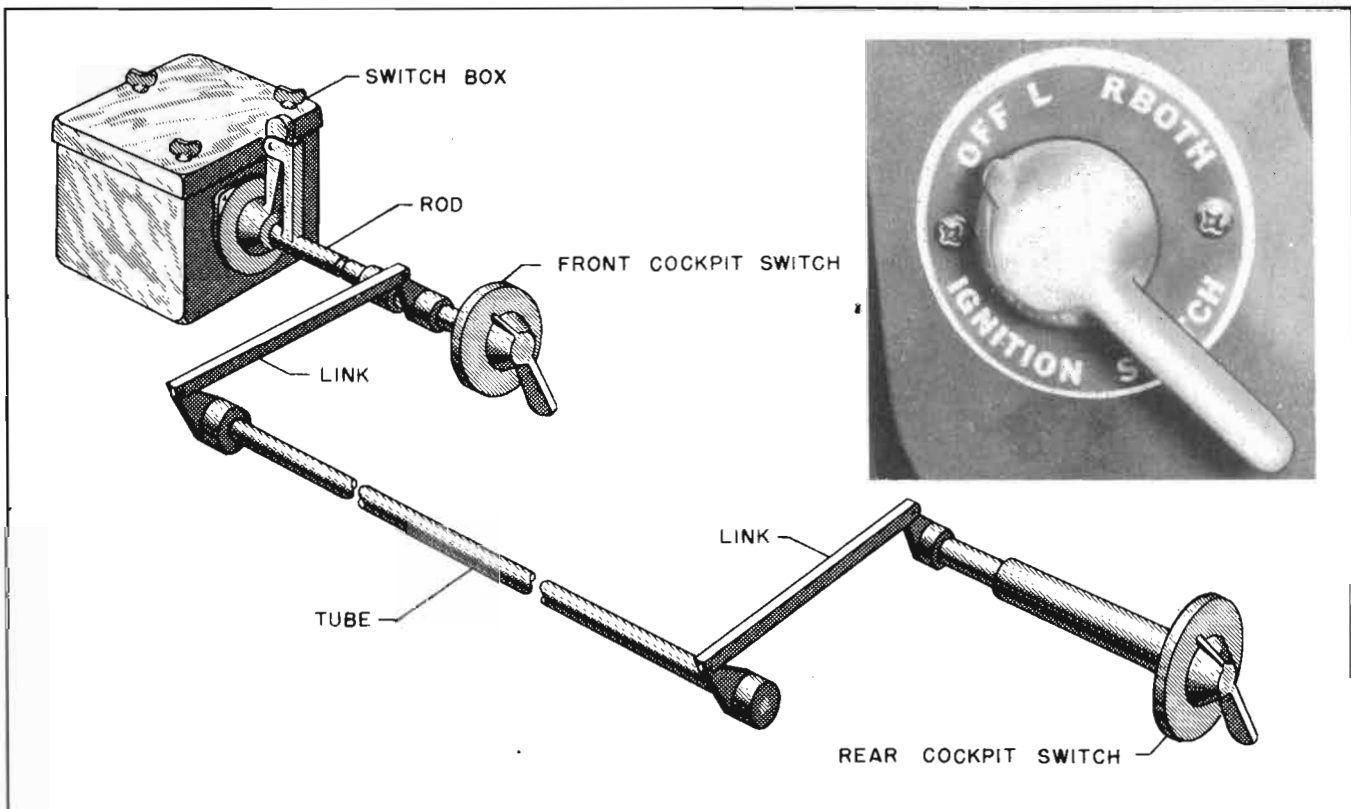

Figure 264 — Ignition Switch and Controls
(4) GENERATOR MAIN LINE SWITCH.—A generator main line switch on the front cockpit switch panel provides a means of opening the generator circuit in case the automatic relay cut out in the generator control panel fails to operate. The switch should be left in the "OFF" position when the engine is not running.
(5) IGNITION SWITCH.—(See figure 264.)—A master ignition switch box unit, wired directly to the rear of the magnetos, is located at the left side of the fuselage, forward of the front instrument panel. This master switch is operated from the left side of the instrument panel in both cockpits by a lever or pointer handle mechanically interconnected with the switch.
(6) ENGINE STARTING SYSTEM.